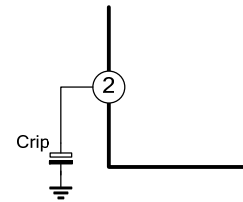

Figure 3
3. Ripple Rejection (Figure 3)
Adding Crip, to the ripple terminal 2 as shown in Figure 3, the ripple rejection ratio is improved from -25dB to -45dB.